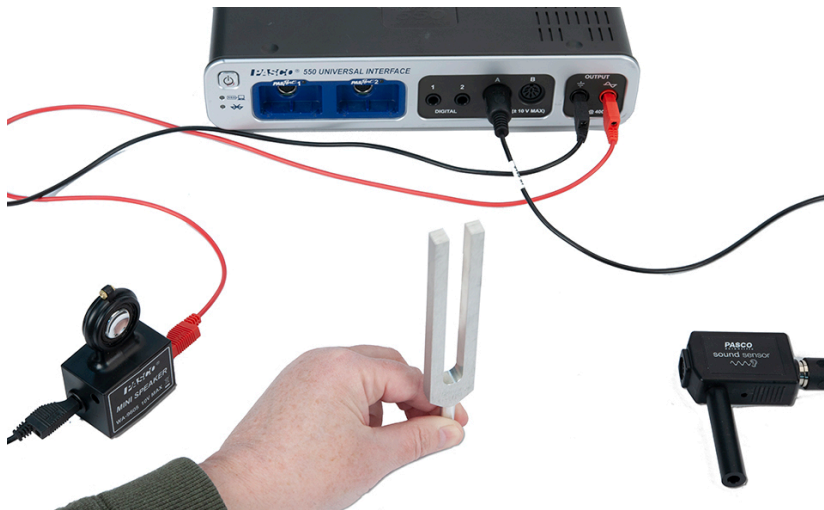

Figure 2: Setup
5. When creating beats, strike the tuning fork with a rubber hammer and hold the base of the tuning fork firmly against the table, about halfway between the speaker and the Sound Sensor (see Figure 2).
5. To create beats, strike the tuning fork with a rubber hammer and hold the base of the tuning fork firmly against the table, about halfway between the speaker and the Sound Sensor (see Figure 2).